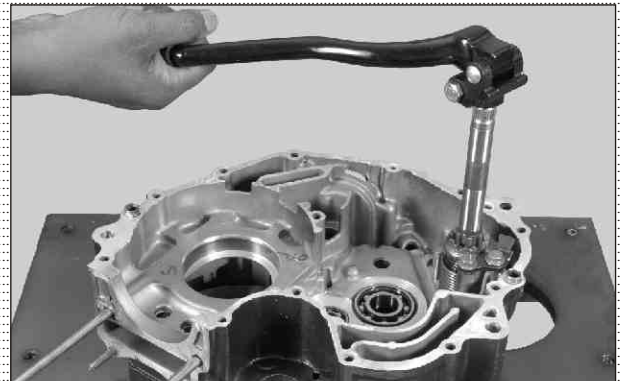

Fig. 3.104
- Rotate the shaft kick starter using lever assembly kick starter and release the starter kick from the guide kick starter. (Fig. 3.104)